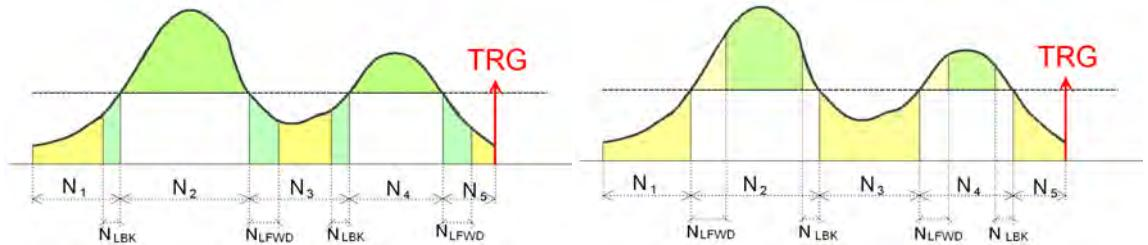

Fig. 7.11: Example of non-overlapping N_{LBK} and N_{LFWD} in case of positive logic (left) and negative logic (right).
1. In the simplest case N_{LBK} and N_{LFWD} do not overlap. Fig. 7.11 reports the case of positive logic on the left, and negative logic on the right. The green areas correspond to the over threshold samples, while the yellow ones correspond to the under threshold samples: